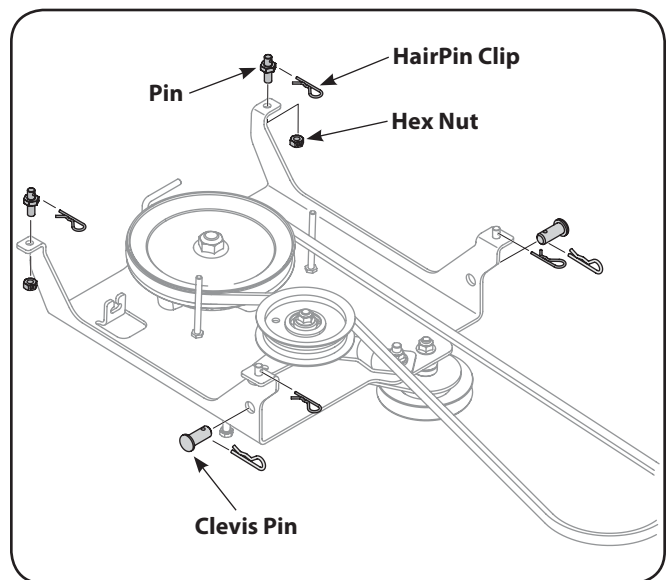

Figure 3-1
1. Remove and retain the four hairpin clips from the pins found on the top side of the undercarriage assembly. Remove and retain the two rear pins and hex nuts found on the undercarriage assembly. Remove and retain the two clevis pins with hairpin clips. This hardware is for later installation. See Fig. 3-1.